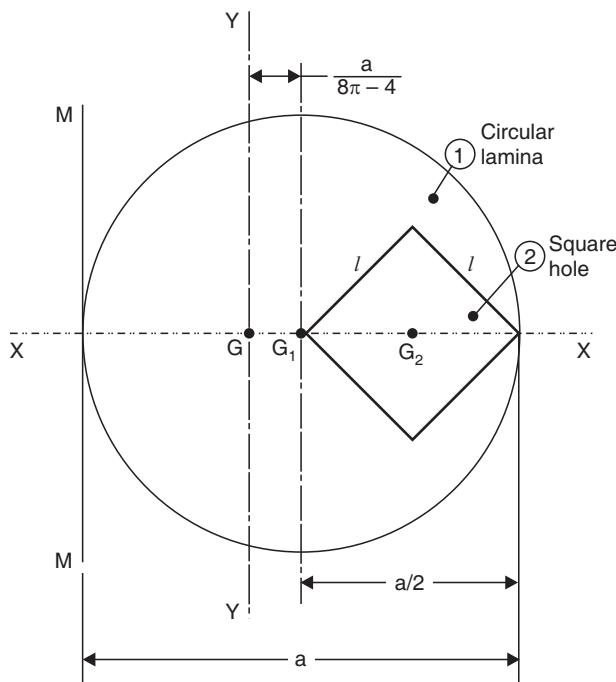

Fig. 7.27
**Sol.** Refer to Fig. 7.27. Since, the remaining body is symmetrical about  $XX$ -axis.